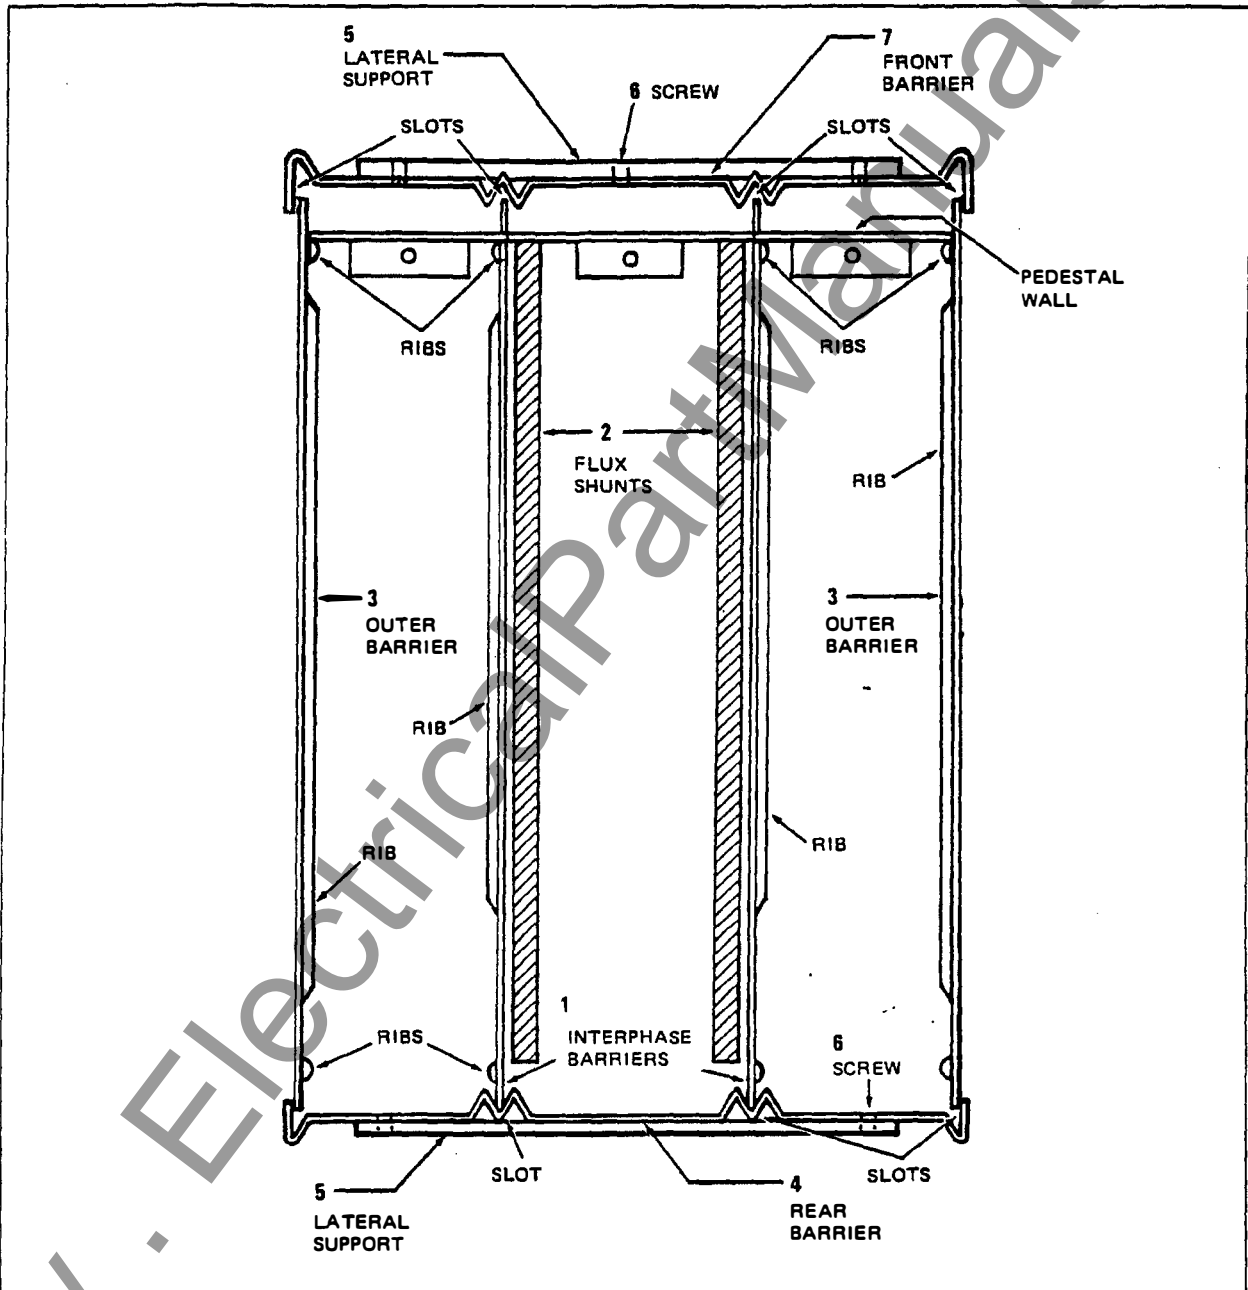

Figure 10. Phase Barrier Assembly Top View
Barriers of high dielectric flame retardant material isolate each phase (Figure 10). To remove interphase barriers (1) and flux shunts (2), remove screws (6), lateral supports (5), front barrier (7), rear barrier (4) and outer barrier (3). Flux shunts (2) should be pulled out first towards the rear of the breaker before interphase barriers (1) can be removed.
Remove phase barriers as described under "Phase Barriers Assembly" (refer to Figure 10).